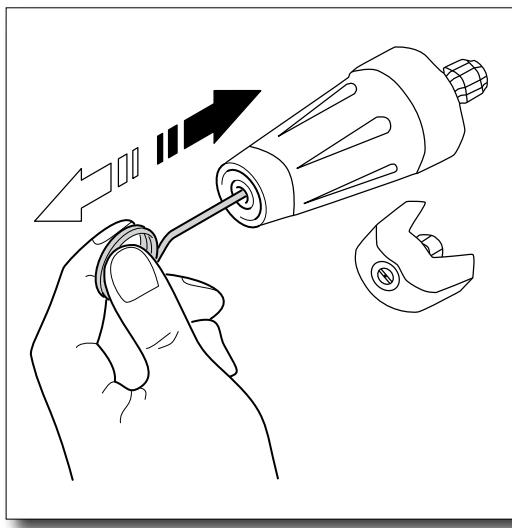

Fig. 23
- Using the nozzle tip cleaner provided (or an unfolded paper clip), insert the wire into the nozzle hole and move back and forth until debris is dislodged (*Fig. 23*). Back flush water through the nozzles using garden hose and highest pressure available (either standard water nozzle or use your thumb over the nozzle to create water pressure for back flush).